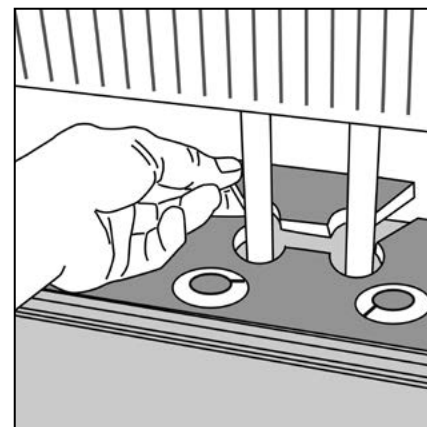

Figure 8 Radiator pipes
- ▶ If necessary, put a bead of contact glue on the cut piece and replace (fig 8). Insert a spacer directly behind the inserted piece to wedge it in place ensuring that the correct sized expansion gap has been left. Leave this in place until the glue has hardened.